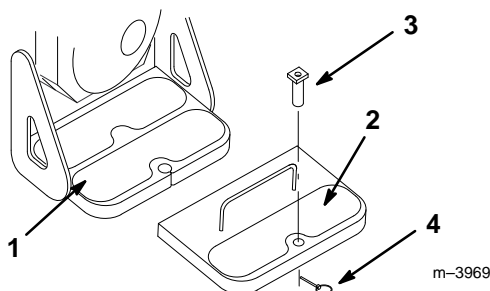

Figure 1
- Slide the counterweight onto the operator platform (Fig. 1).
Note: The counterweight for diesel traction units with the battery mounted on the operator platform differs from Figure 1 in that it has a cutout area that fits around the battery.
- Secure the counterweight with the pin and lynch pin (Fig. 1).